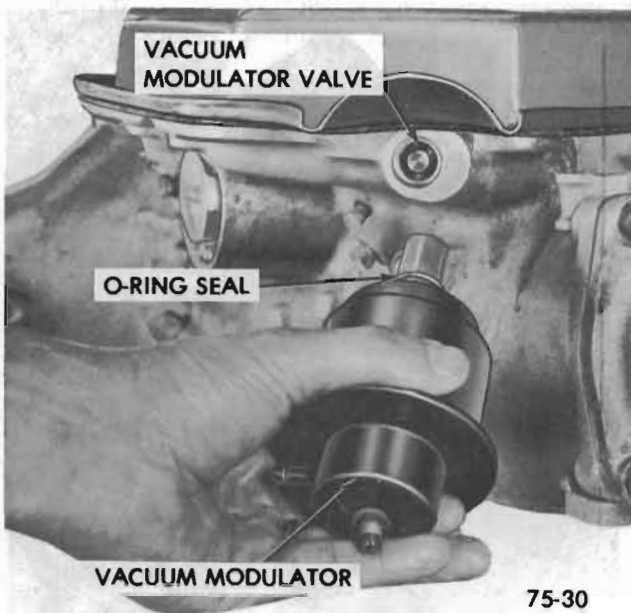

Figure 75-281
3. Install vacuum modulator valve. See Figure 75-281.